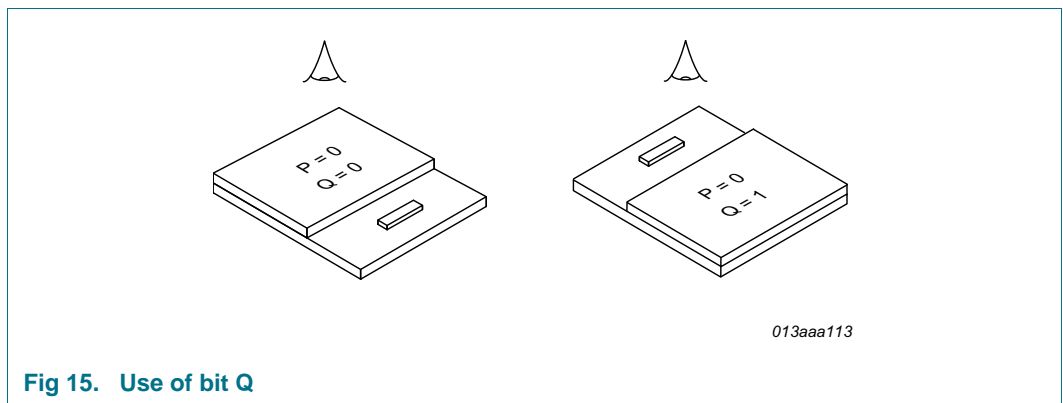

Fig 15. Use of bit Q
**Bit Q:** The Q bit flips the display top to bottom by mirroring the row data, as shown in Figure 15.